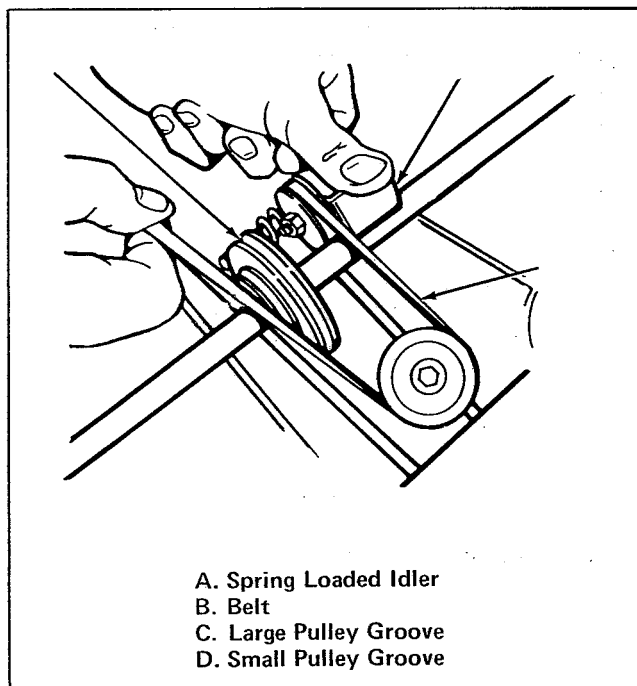

Figure 38. Belt Adjustment
2. Move spring loaded idler (item A, figure 38) forward towards the engine to release tension on the belt (item B).